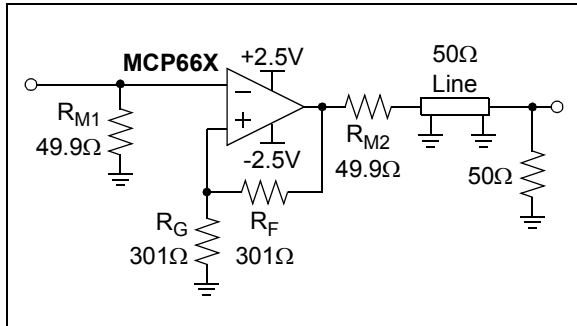

FIGURE 4-10: 50Ω Line Driver.
Differential gain (DG) and differential phase (DP) refer to the non-linear distortion produced by an NTSC or a phase-alternating line (PAL) video component. Table 1-2 and Figure 2-34 show the typical performance of the MCP661, configured as a gain of +2 amplifier (see Figure 4-10), when driving one back-matched video load (150Ω, for 75Ω cable). Microchip tests use a sine wave at NTSC's color sub-carrier frequency of 3.58 MHz, with a 0.286V_{P-P} magnitude. The DC input voltage is changed over a +0.7V range (positive video) or a -0.7V range (negative video).
Figure 4-10 shows the MCP661 driving a 50Ω line. The large output current (e.g., see Figure 2-18) makes it possible to drive a back-matched line (R_{M2} , the 50Ω line and the 50Ω load at the far end) to more than $\pm 2V$ (the load at the far end sees $\pm 1V$). It is worth mentioning that the 50Ω line and the 50Ω load at the far end together can be modeled as a simple 50Ω resistor to ground.